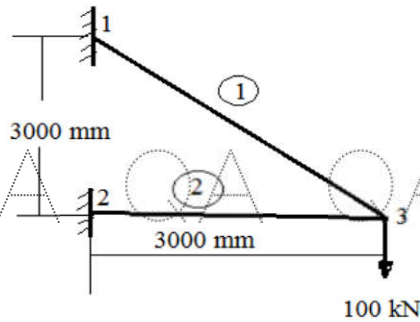

Figure 2
4. For the two-bar truss shown in the figure 2, determine the displacements and stress.  $A_1=500\text{mm}^2$ ,  $A_2=1200\text{mm}^2$ ,  $E=2 \times 10^5 \text{ N/mm}^2$ . [10]